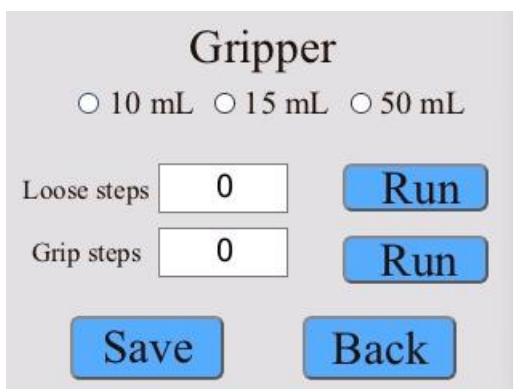

Fig.5
- (2) Claw Spacing: Three commonly used tube diameter modes are pre-set for 10 mL sampling tubes, 15 mL centrifuge tubes and 50 mL centrifuge tubes. When you need to switch, select the mode and save it. If the pre-set mode does not meet your actual needs, you can make adjustments (release steps are the distance when opening, grip steps are the distance when gripping the tube). After setting, click "Save," as shown in Figure 5.